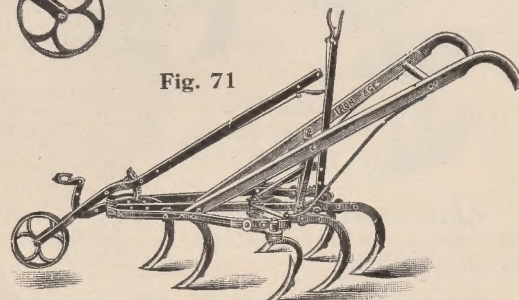

**Fig. 100**
**Without lever for wheel.** Fig. 100. This is merely dropping one convenience which, however desirable, is not necessary and the tool loses none of its actual working value. Your work may not require constant changing of the working depth—so why should you buy the tool with lever?